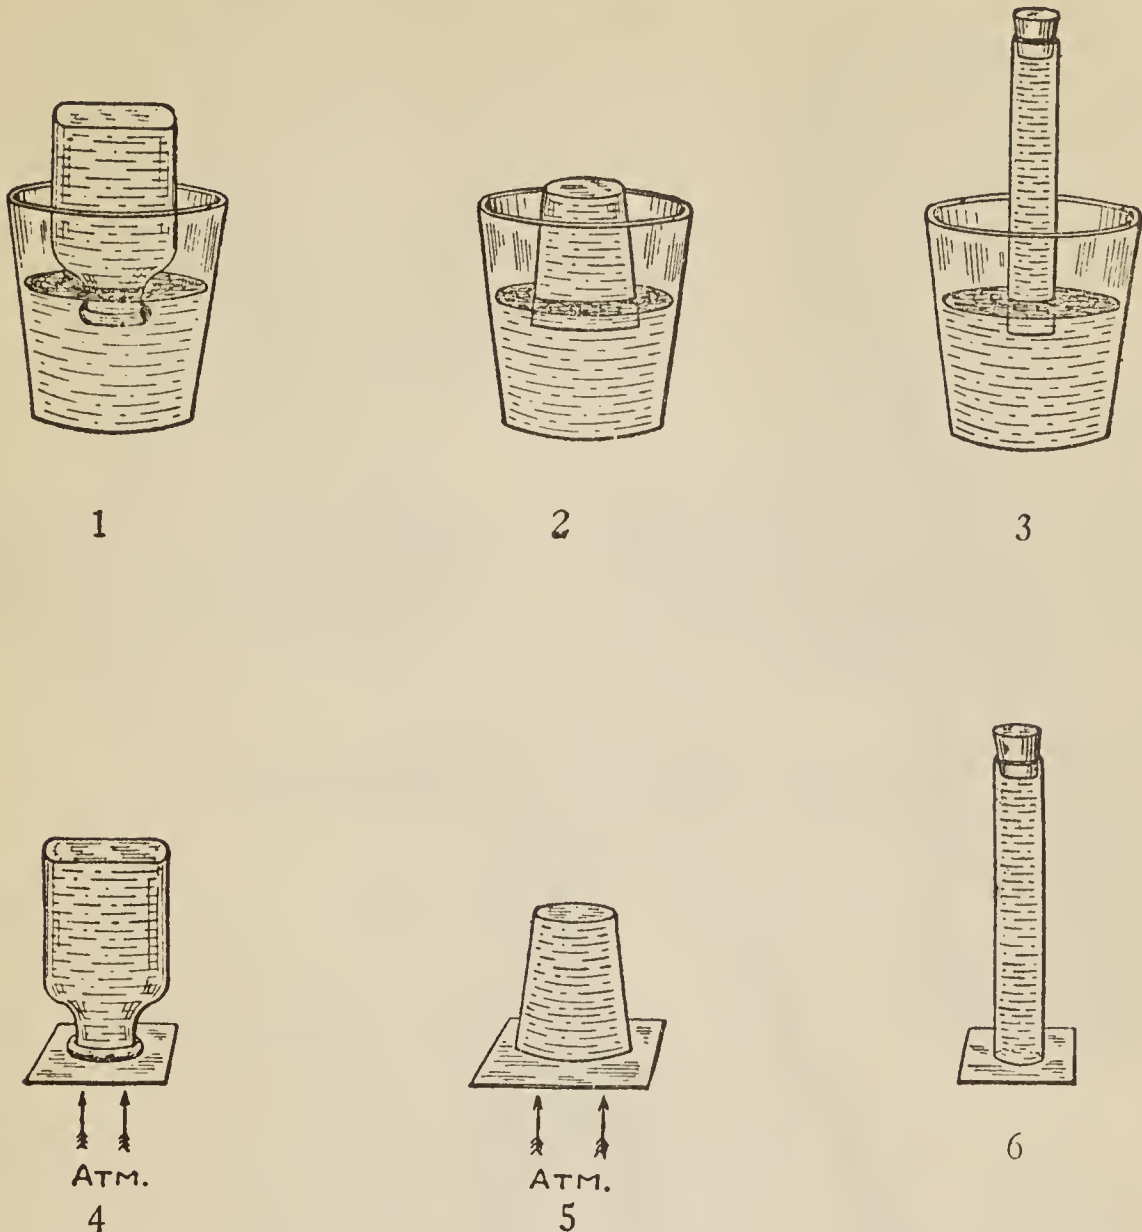

Fig. 55.—Showing That the Atmosphere Exerts Pressure Downward and Upward.
Fill the bottle with water, close the top with the hand, invert the bottle in a pail of water, and remove the hand under water, (1) Fig. 55.